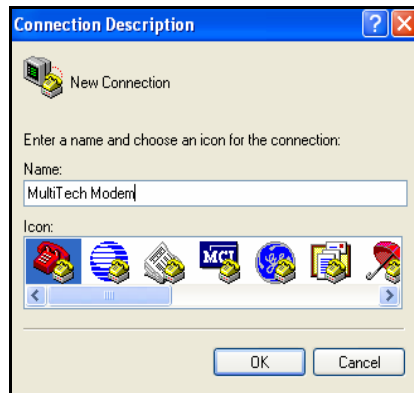

FIGURE 20-27 Connection Description
Step 3 Open your Windows HyperTerminal program. This will launch the Connection Description dialog box. In this dialog box, enter a name and click **OK**, as shown in Figure 20-27.